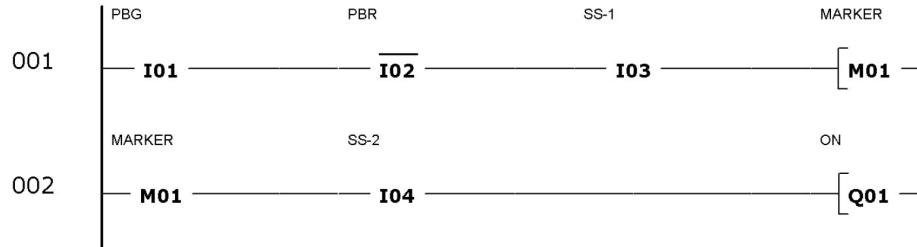

Figure 1-19. Using markers to avoid backwards wiring.
The first method of solving the problem is to use markers to cut a long ANDed series of contacts. The Programmable Logic Controller module uses "M" and "N" markers to store values. Figure 1-19 shows how the preceding example may be implemented correctly with a marker.
Enter and save the program shown in Figure 1-19.
- ☐ 10. Do the circuits shown in Figures 1-19 and 1-20 behave similarly, in terms of what it takes to energize output Q1?
5. In Figure 1-19, if marker M1 is changed for marker N4 at the end of rung 1, which contact must start rung 2 to make the circuit work in the same manner?